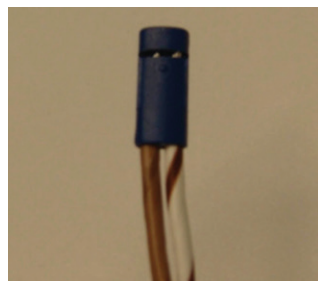

Figure 17: Inserting contacts into insulators
11. Using a blue insulator from the connector kit, insert the contact into an insulator with the solid colored wire in the hole on the left (Figure 17). Be sure to maintain a twist in each pair while inserting it into the insulator.